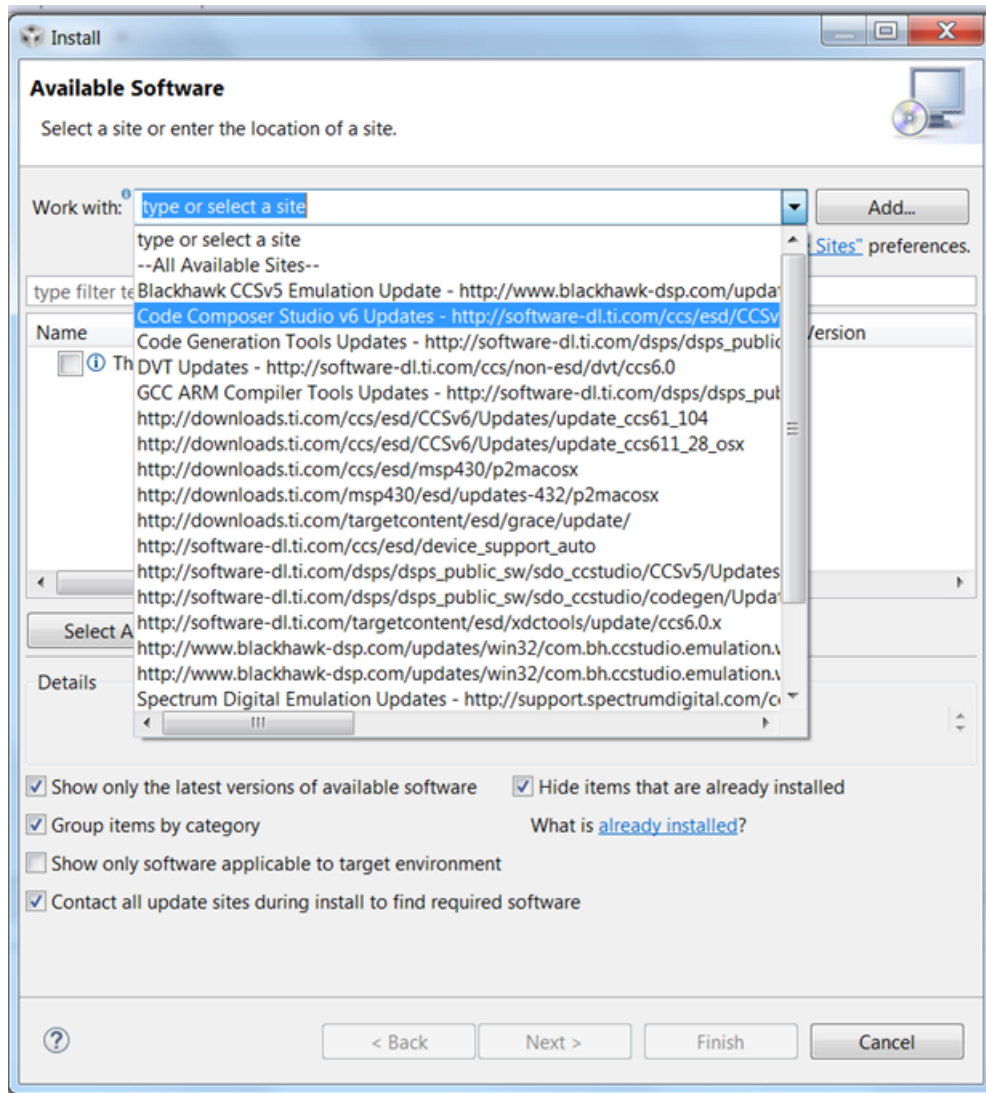
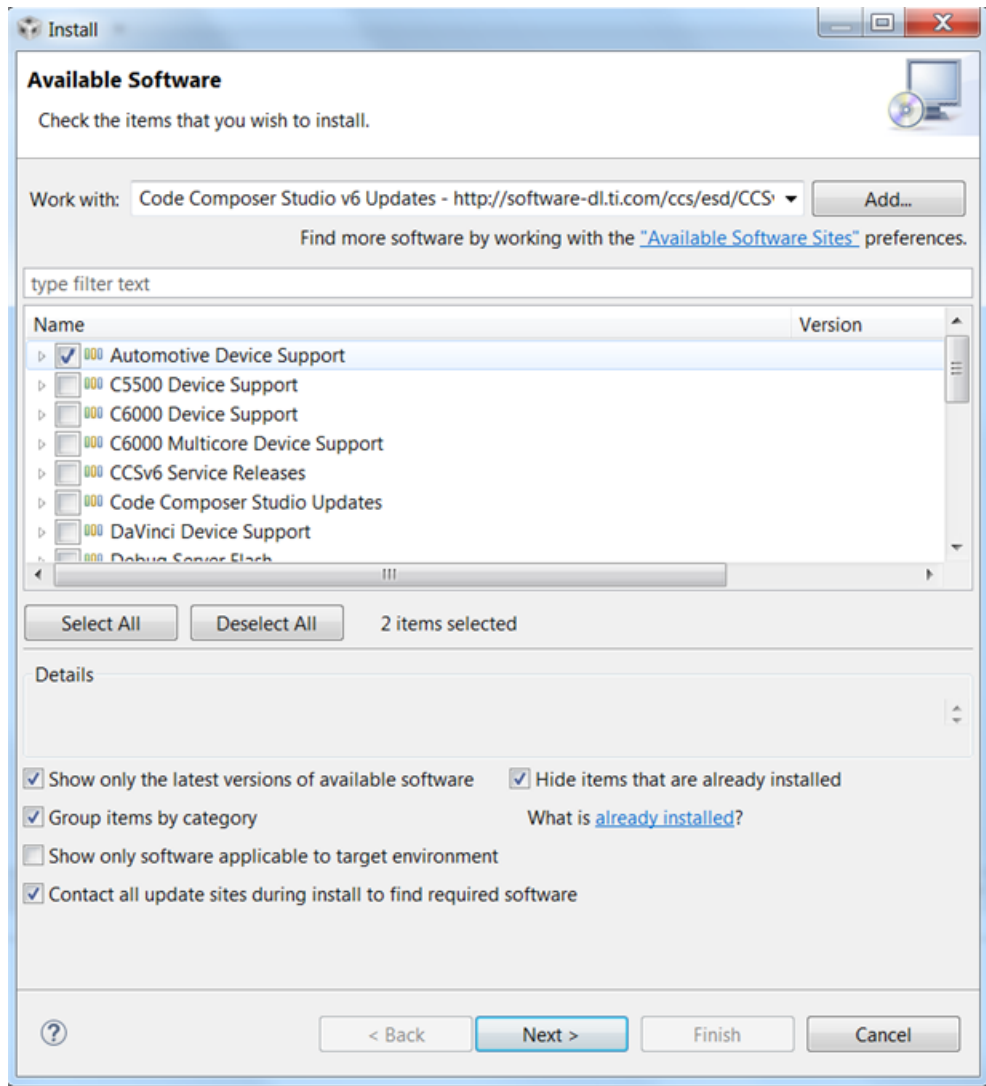

Figure 2. Selecting Code Composer Studio v6 Updates in the CCS Install Pop Up Window
Figure 3. Choosing Automotive Device Support for CSP Package Installation
2. In the pop up window select “Code Composer Studio v6 Updates” in the Work with: field as shown in Figure 2 and Figure 3.